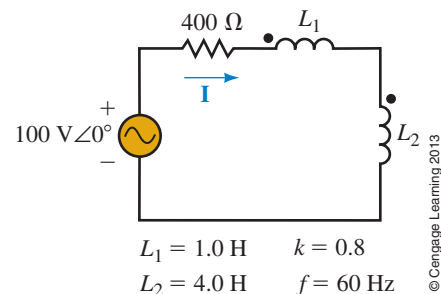

FIGURE 23-81
- For the circuit of Figure 23-81, determine I .